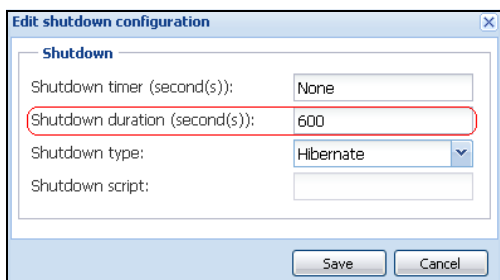

Figure 67. Edit Shutdown Configuration Dialog Box
- The IPP default configuration is available from **Settings > Shutdown > Edit Shutdown Configuration** (see Figure 67).